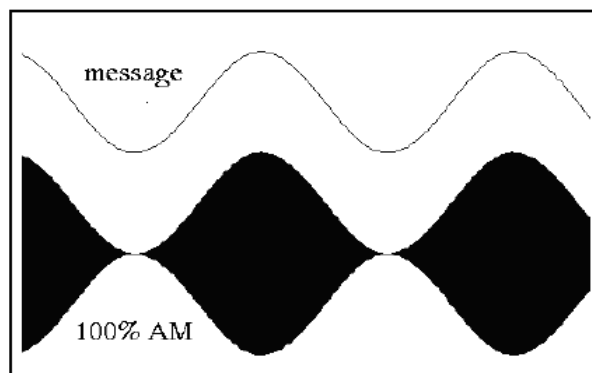

Fig. 3. AM with $\mu = 1$
- 3- View the AM modulated signal and the message signal on the “Scope”. At this stage, since you have set your $\mu = 1$, you should have an AM modulated signal with a 100% modulation index. What you see on the Scope should look similar to Figure 3. Set up the view of your Scope window such that about 5 periods of the signals are displayed. Make sure the signals fit appropriately in the display window and are not cut off. **Include a screenshot of what you see on the scope and attach it to your report.**